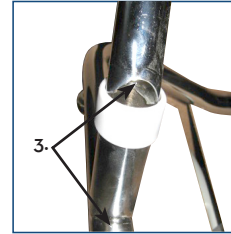

figure 3
3. Insert this end into the base of the unit with the curve of the post matching the curve of the base. (figure 3)